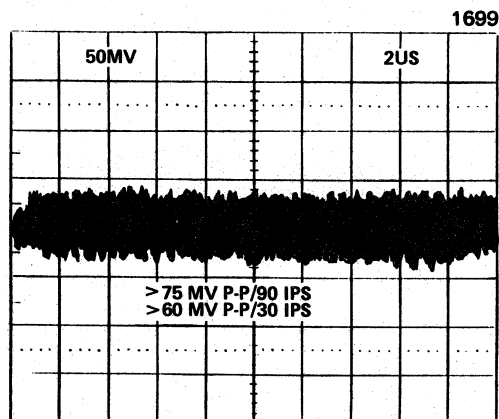

Figure 3-20. Erase Residue Voltage
- b. Verify tape is at BOT. Press CLR, TRK, 0, ERS, FWD, and GO pushbuttons on BE101. Let tape run to EOT, then press CLR, REV, and GO pushbuttons on BE101. On oscilloscope screen, observe erase residue signal level from test point TPI on Main PWB while tape is returning to BOT. Signal level should not exceed 75 millivolts for 90 ips tape drive, or 60 millivolts for 30 ips drive, as shown in Figure 3-20.